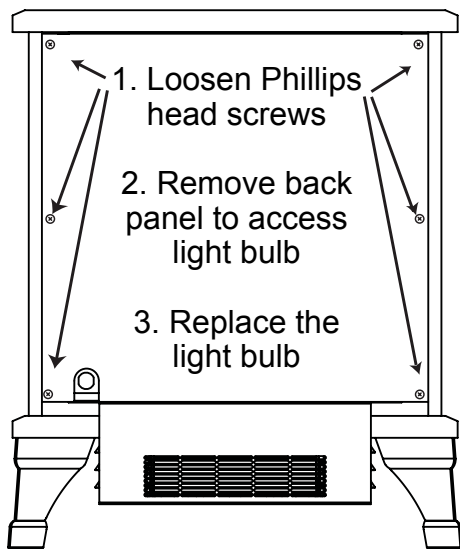

Fig. 4
3. Loosen the screws holding the stove back panel to the main body of stove (see Fig 4).